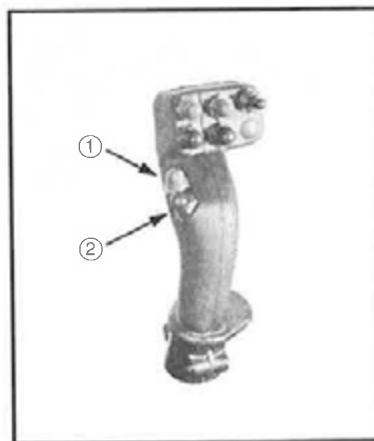

FIG 5.19
To raise and lower the transom/boom assembly, depress the "GRAY" (UP) or the "RED" (DOWN) buttons on the hydrostatic drive handle (fig. 5.19, item 1 & 2). While depressed, either button activates the transom lift cylinders (fig. 5.18).